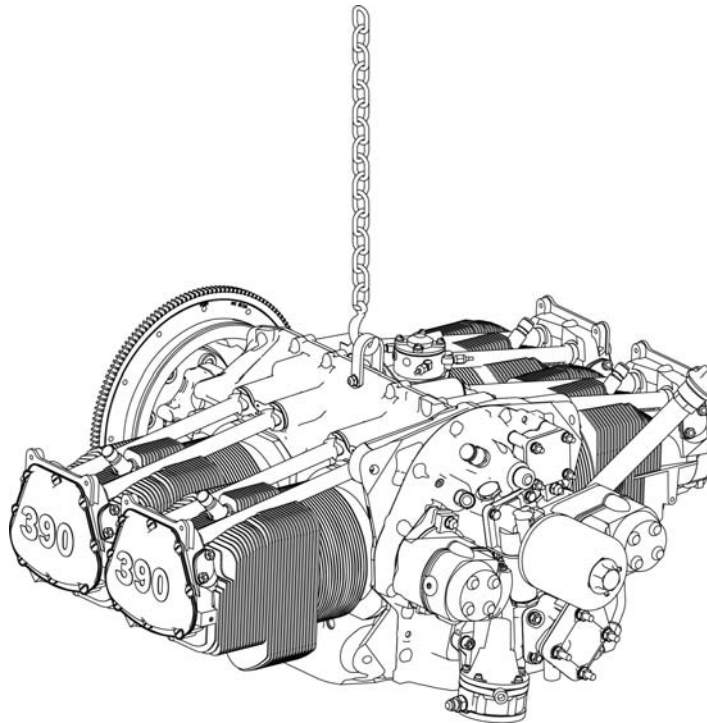

Figure 1 - Engine Lift
1. Connect the hoist and chains to the lifting lug on the engine as shown in Figure 1.